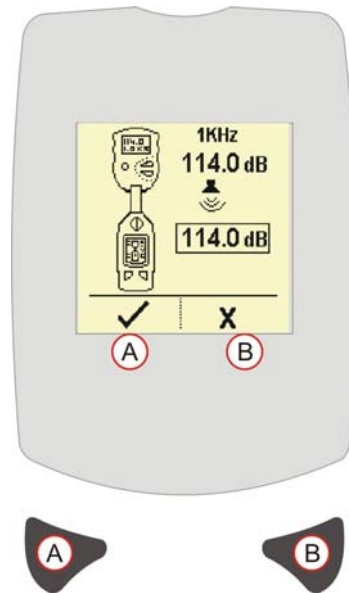

Figure 5 Calibration Mode Screen
4. Fit the Acoustic Calibrator firmly over the microphone. The instrument automatically detects a 1kHz tone from a 94 or 114dB Calibrator and enters Calibration Mode (Refer to Figure 5).